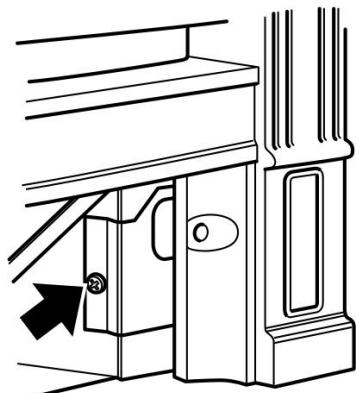

Figure 38. Securing screws (fascia may differ from that shown)
3. Remove the two screws securing the bottom of the fascia to the sides of the hotbox (See figure 38).